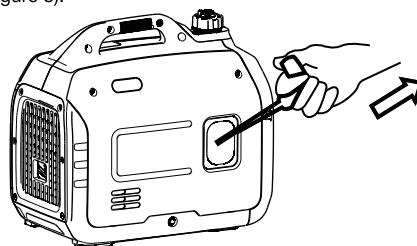

Figure 8: Pull the Recoil Handle out from Inverter
4. Firmly grasp and pull the recoil handle slowly until you feel increased resistance. At this point, apply a rapid pull while pulling out from the inverter (see Figure 8).